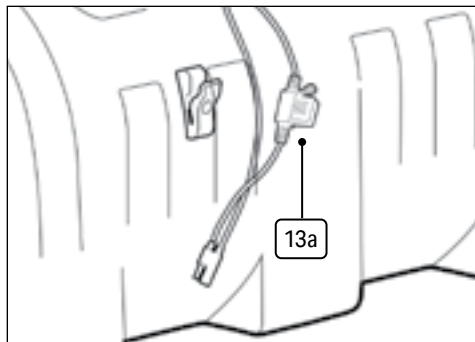

Fig. 21
9.4 Pump Fuse Replacement (Fig.21)